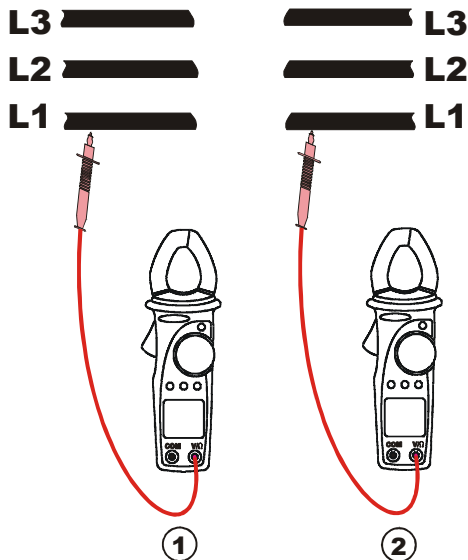
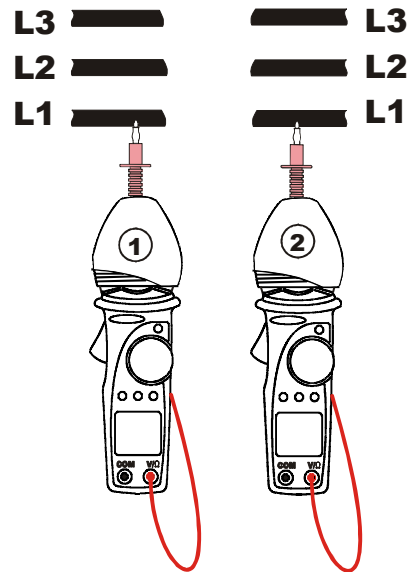

Fig. 16: phase detection
Fig. 17: phase detection with rubber cup
4. Connect the red terminal to the L1 phase conductor (see Fig. 16, 1st measurement). If necessary use the rubber cup to insert red test lead (see Fig. 17, 1st measurement).